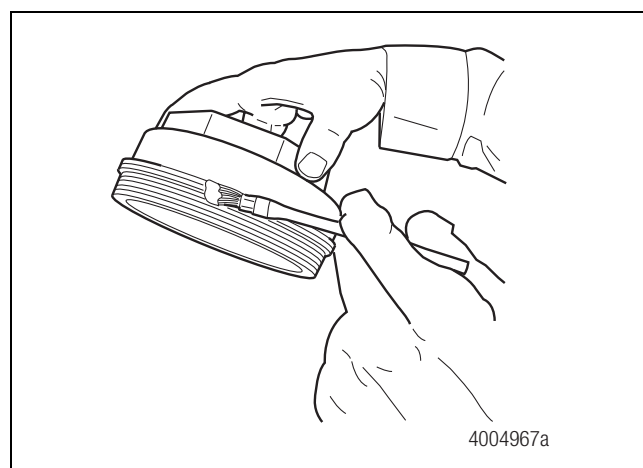

Figure 3.34
- Lightly lubricate the hubcap O-ring and the hubcap threads with bearing grease. Figure 3.34.